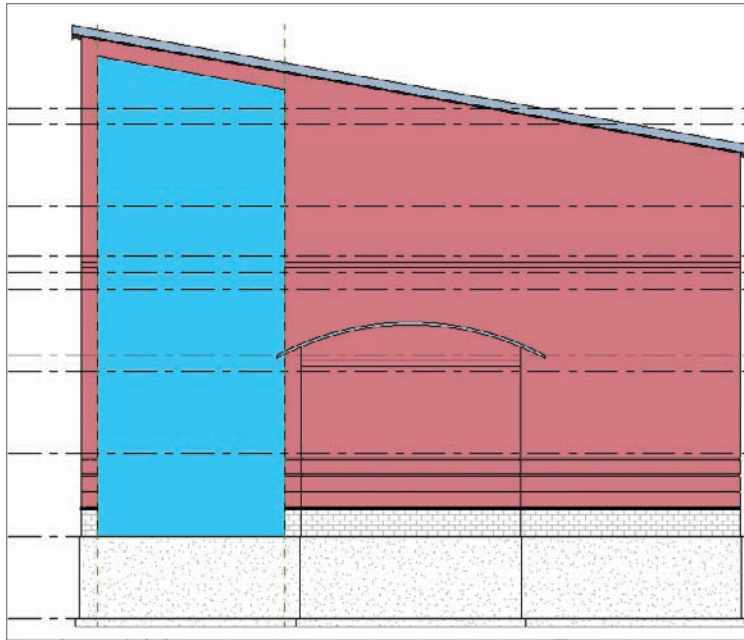

FIGURE 16.29 The complete curtain wall profile
6. Click Finish Edit Mode. Your curtain wall's profile should resemble Figure 16.29.